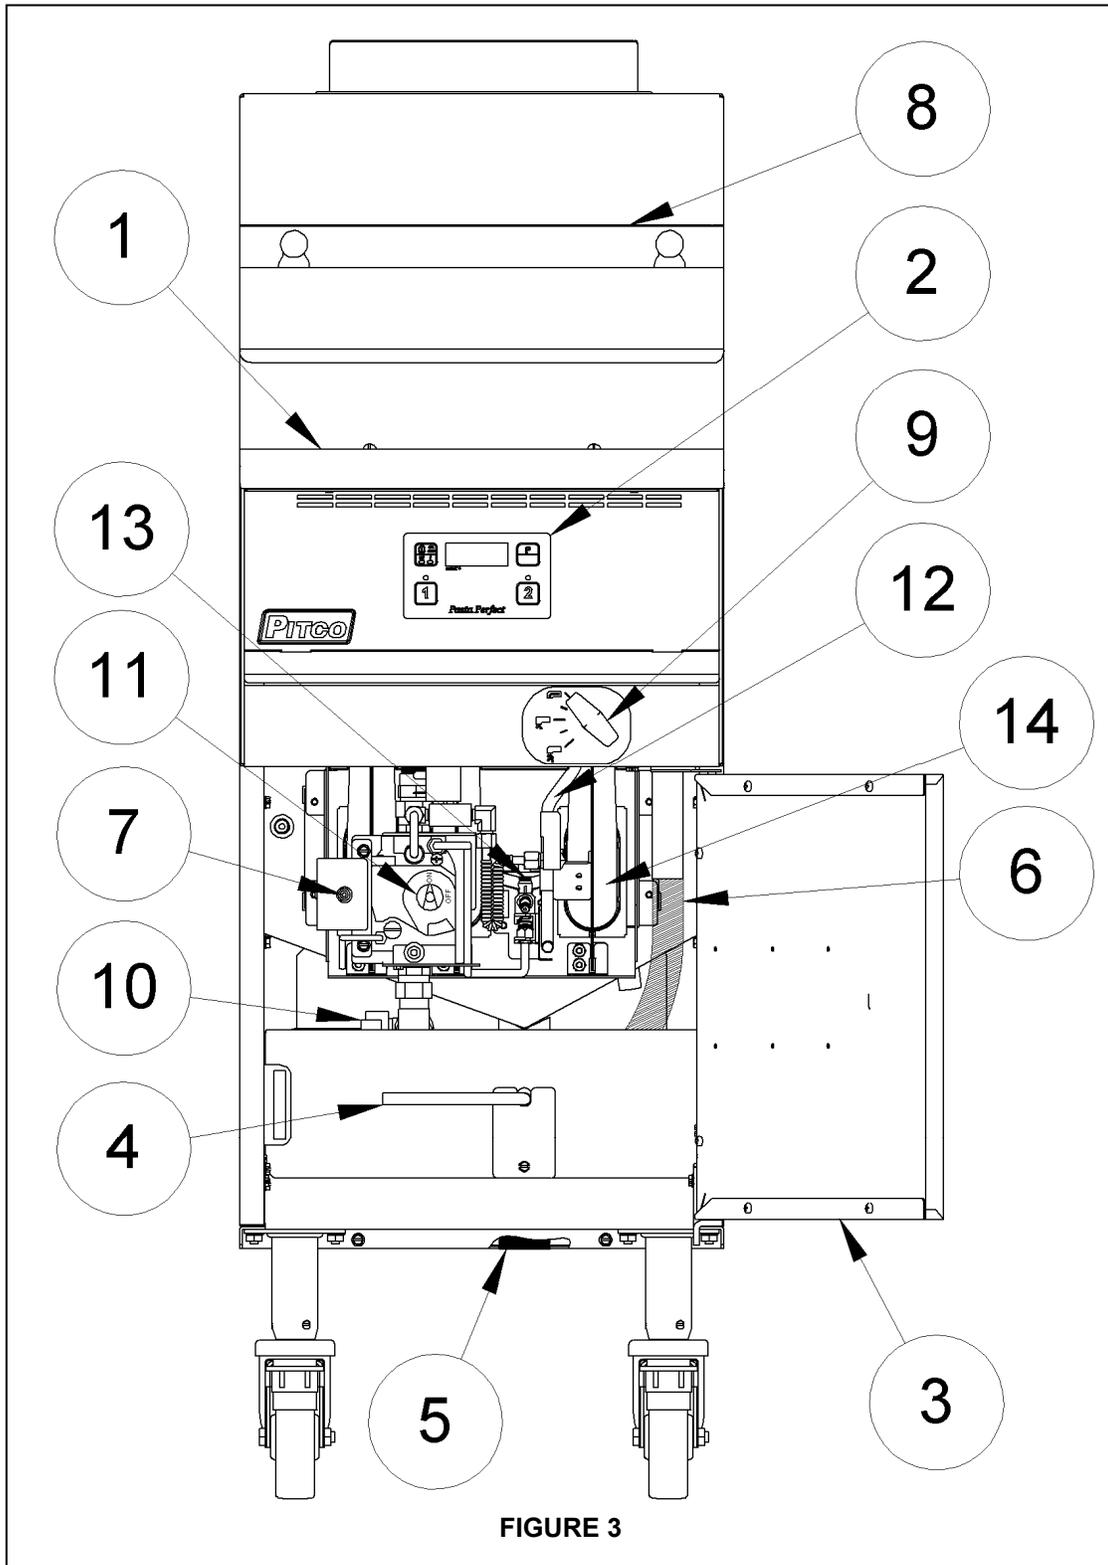

FIGURE 3
The diagram below outlines some of the key operational components of your appliance, see Figure 3. Refer to the following sections of this manual to learn more about these features.
1. Ensure that the drain valve is closed, See Figure 3.
will read "OFF", See Figure 3.
1. Press and hold the ON/OFF (I/O) button on the Digital Control (2) for 2 seconds, the Display will read "OFF", See Figure 3.
2. Turn the gas valve control knob (11), to the "Off" position.
3. Turn the manual shut off valve (10), to the "Closed" position, closed is when the handle is perpendicular to the gas line.